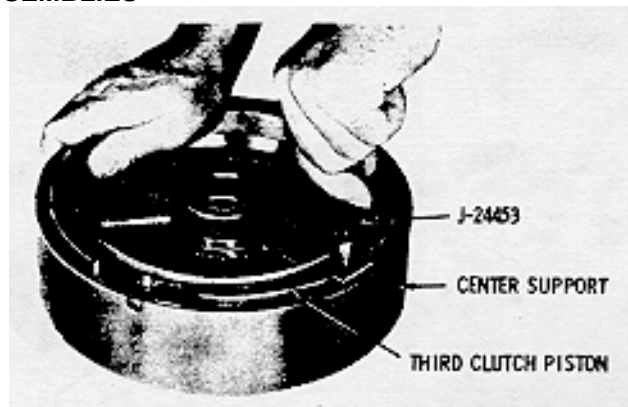

Fig. 6-53. Installing self-locking retainer washer
(4) Place spring retainers 7 and 20 on pistons 9 and 18, aligning the four holes in the retainer with the four ejector pin bosses on the pistons. Using tool J-24453, install eight new self-locking retainer washers 6 and 21 onto the eight ejector pin bosses (fig. 6-53). Do not force the retainer washers past the upper third of the ejector pin until the piston movement is properly located in its bore.
(5) Install the assembled piston, springs, and spring retainers into their piston bores in support assembly 13. Be sure the piston bottoms in its bore. Apply pressure to self-locking retainer washers 6 and 21 until spring retainer 7 and 20 are seated against the outer edge of the support assembly. Remove the pistons from the support assembly.
(6) Apply oil-soluble grease to the inner and outer diameter sealring grooves on pistons 9 and 18. Install sealrings 10 and 17 into the inside diameter groove of pistons 9 and 18. Install sealrings 11 and 16 into the